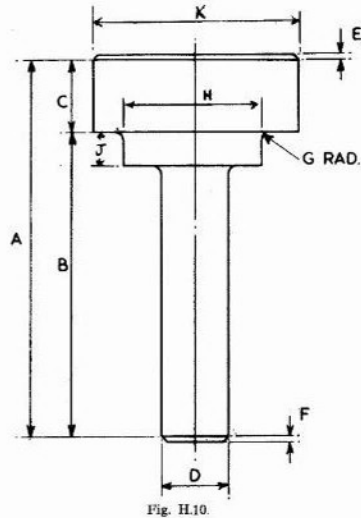

Fig. H.10.
- Using a dolly machined to the dimensions Fig. H.10, again using the valve guide bore as a pilot, press home the insert using steady pressure from a hand or hydraulic press. Under no circumstances should the insert be hammered in or lubricated.